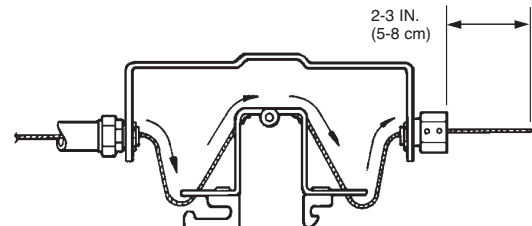

FIGURE 48
4. Before continuing on past the detector bracket, feed the wire rope through the detector linkage assembly. See Figure 48.
6. At the terminal detector, feed wire rope through the terminal detector clamping device. Allow 2-3 in. (5-8 cm) of wire rope to extend beyond the clamping device and wrench tighten the set screws. See Figure 48.